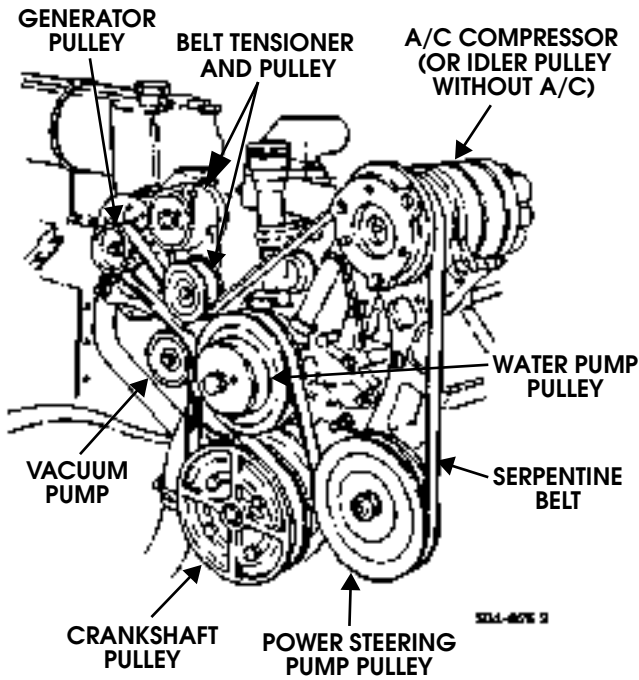

Figure 4-32: Serpentine Belt Tensioner Location
1. Insert square lug of half-inch drive breaker bar in belt tensioner. Then move tensioner counterclockwise to loosen belt (Figure 4-32).